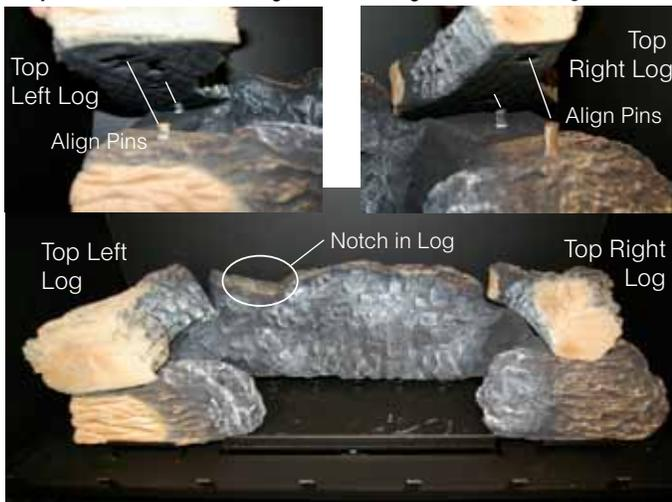

Figure 30c. Top Left / Right Log.
Step 4. Place the Top Right log as shown in figure 30c. using the (4) four alignment pins protruding from the top of the Right and Left Bottom Logs, as shown in figure 30c. With these pins align the Top Right and Left logs using the predetermined alignment holes cast into
the underside of the logs, as shown above, figure 30c insets.
Step 5. Place the Centre Front log, Figure 30d below, as shown using the notch cast in the Bottom Rear log as shown in figure 30c above.